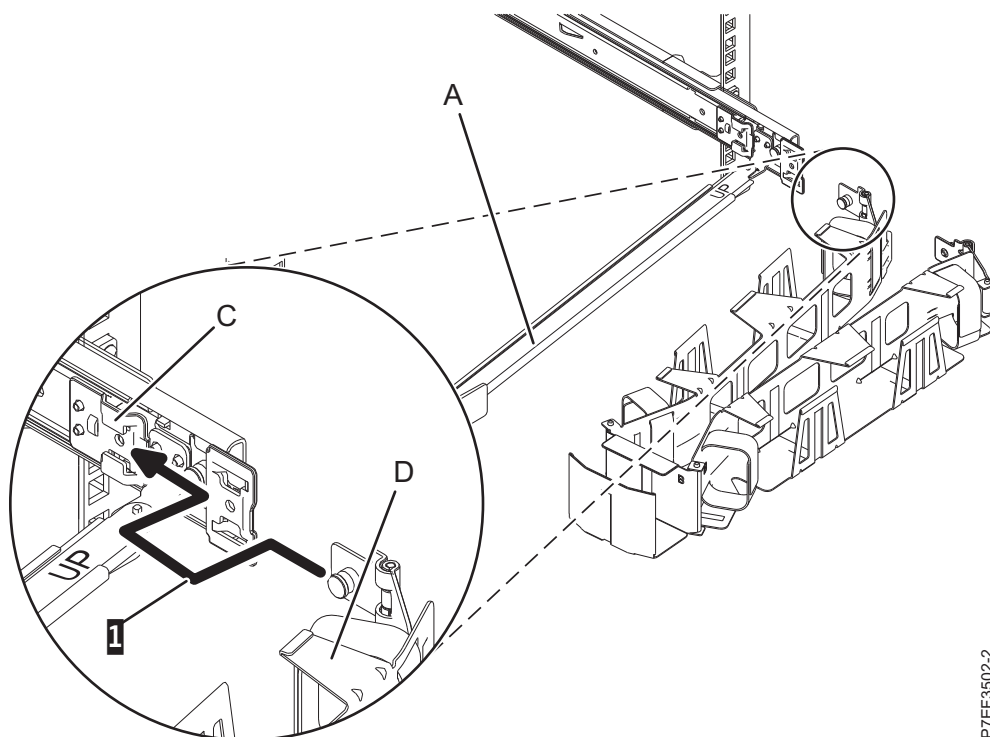
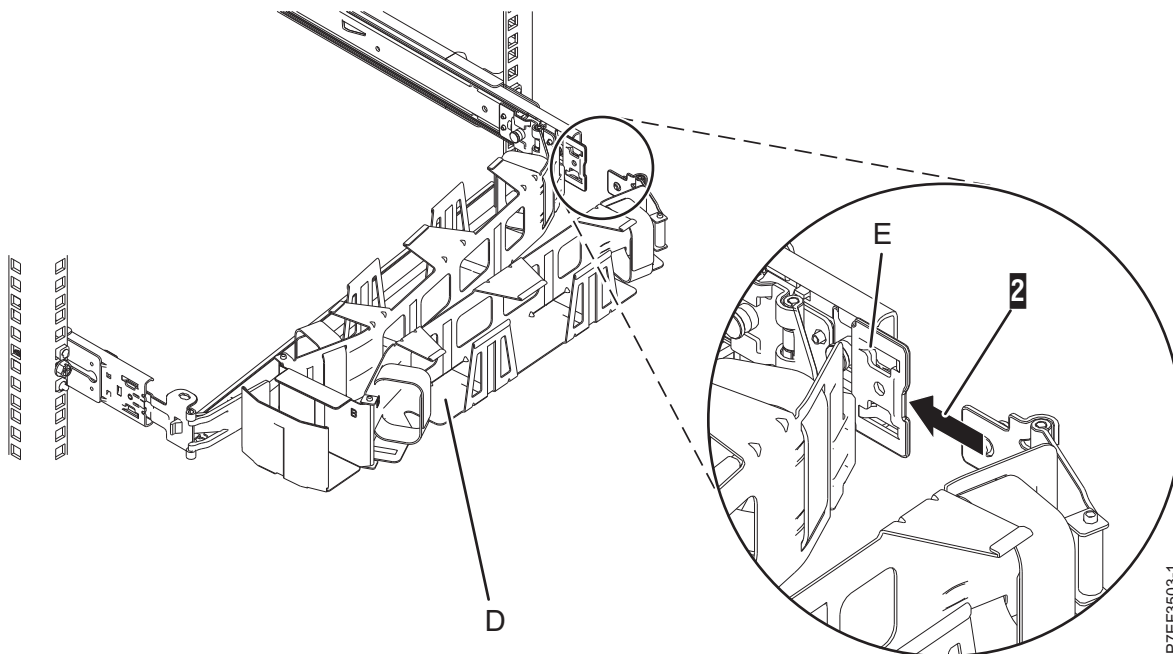

Figure 14. Sliding the cable-management arm tab into the mounting bracket slot
Figure 15. Sliding the other cable-management arm tab into the extension bracket
7. Place the cable-management arm (D) on the support arm (A). Slide the first cable-management arm tab into the slot on the mounting bracket (C). Push the tab until the spring-loaded latch snaps into place. Slide the other cable-management arm tab into the extension bracket (E) on the outside of the right slide rail (2). Push the tab until the spring-loaded latch snaps into place. For details, see Figure 14 and Figure 15 on page 12.